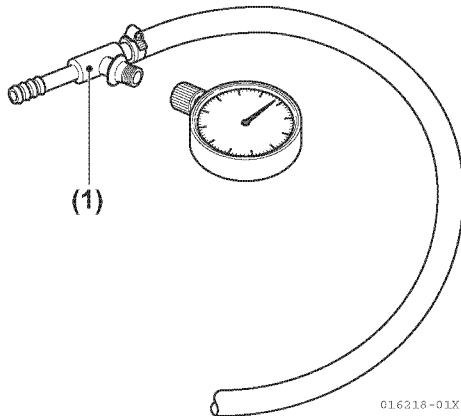

Figure 6-6
1. Attach a suitable fuel pressure gauge to a tee joint, and connect a short length of hose to one of the remaining two legs of the tee (**Figure 6-6, (1)**).